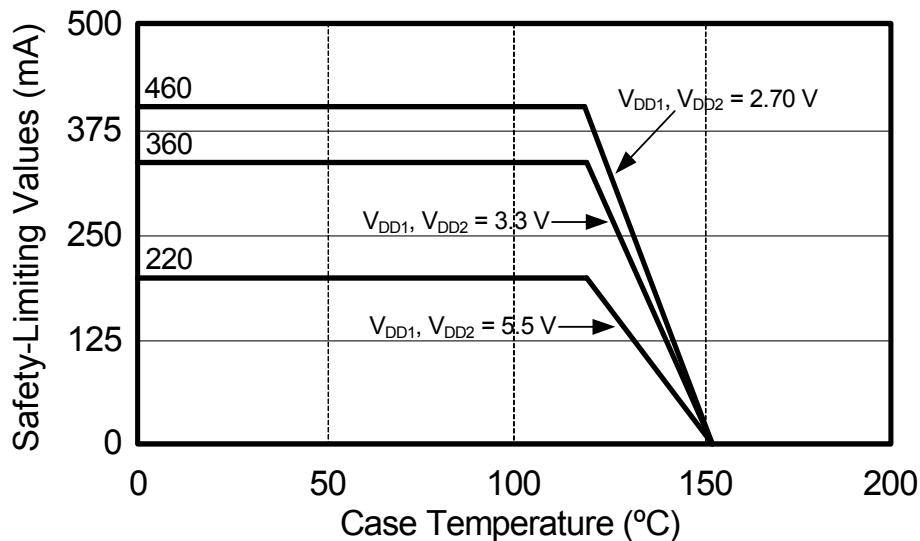

Figure 2. (WB SOIC-16) Thermal Derating Curve, Dependence of Safety Limiting Values with Case Temperature per DIN EN 60747-5-5
1. Maximum value allowed in the event of a failure; also see the thermal derating curve in Figures 2 and 3.